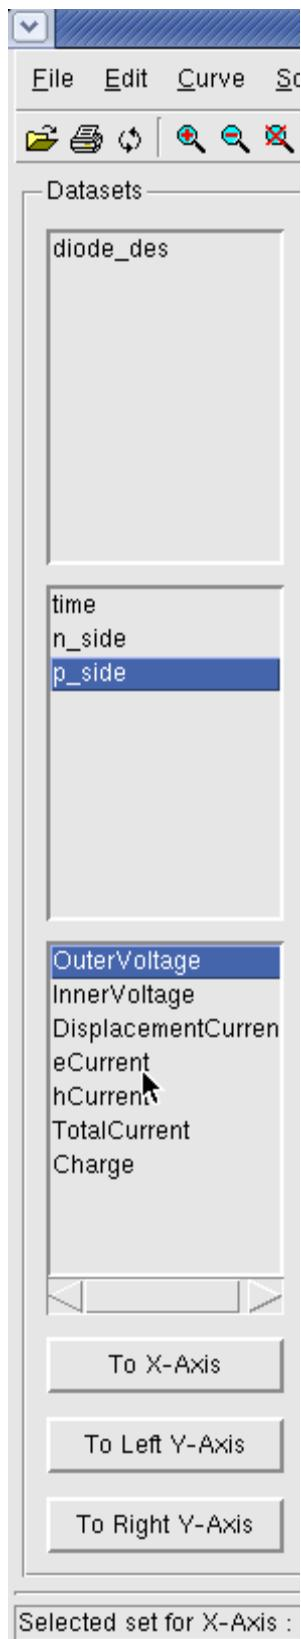

Figure 110: Assigning X-axis.
3. Click on p\_side, OuterVoltageo x axis (Figure 110).